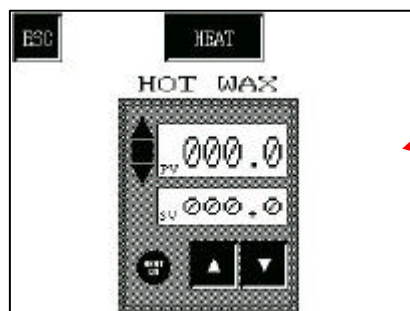

Fig. 45
The screen displayed having pressed the TEMP button on the Menu screen will depend on the options included in your machine. If only the Heated Cup option is fitted, then the screen shown in Fig.45 will be displayed, if the Heated Oven option is fitted then the screen in Fig.47 will be displayed, if however, both options are fitted then the screen shown in Fig.48 will be displayed.
The screen shown in Fig.45 displays the control for the Hot Wax (Heated Cup) temperature. The current temperature of the cup is displayed in the upper window (PV) in centigrade and the lower window displays the set value (SV) also in centigrade.